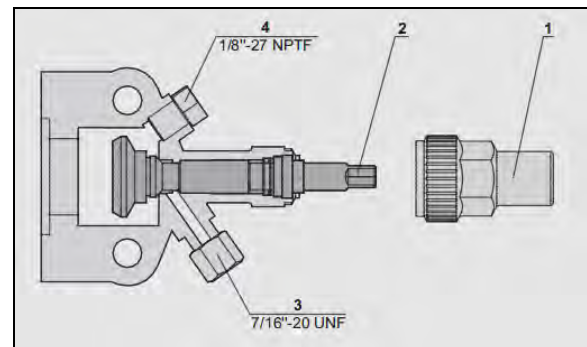

FIGURE 56: COMPRESSOR SHUTOFF VALVE BACKSEATED POSITION (NORMAL OPERATING POSITION)
4. Backseat the compressor suction shutoff valve (FIGURE 56).
13. Shut down engine and backseat suction and discharge shutoff valves (FIGURE 56).
2. Backseat (stem out) the two compressor shutoff valves (FIGURE 56).
3. Install A/C pressure gages at the compressor shutoff valves service ports (item 4, FIGURE 56).